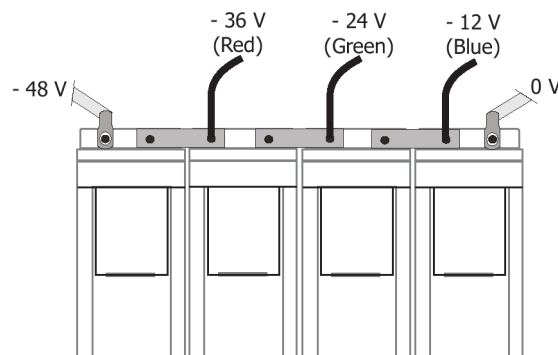

Figure 4-12 4-Block Symmetry Measurement (for illustration only)
4. For 4-block measurement fix the 3 wires (red, green and blue) of the symmetry cable to individual cable lugs. Colour coding of the cables must be respected for proper symmetry measurement see Figure 4-12.